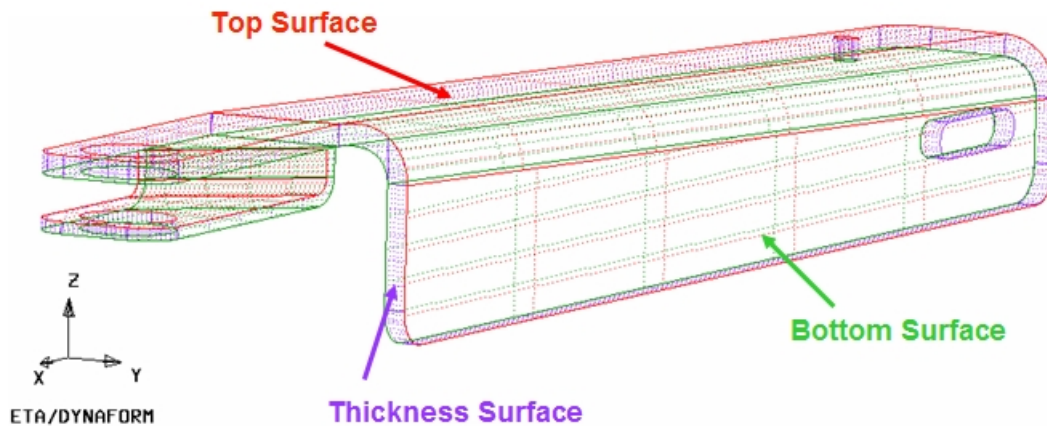
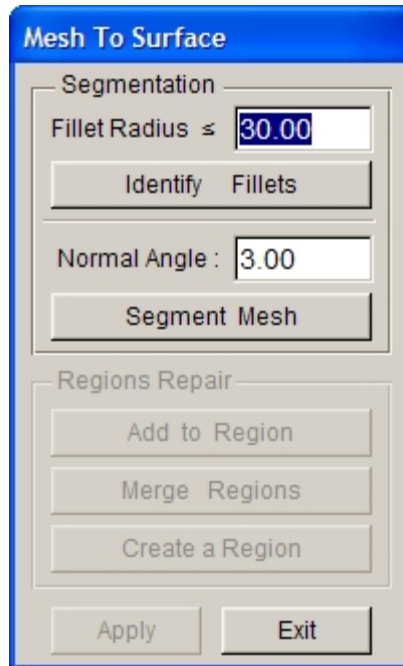

Figure 5.2.14 Group Bottom Surfaces
Figure 5.2.15 Mesh to Surface dialog box
5. Click on DONE button to group the bottom surfaces of the part (Figure 5.2.14). At this point, Figure 5.2.15 is displayed.
This function allows the user to mesh to surface, which dialog box is shown in Figure 5.2.15.